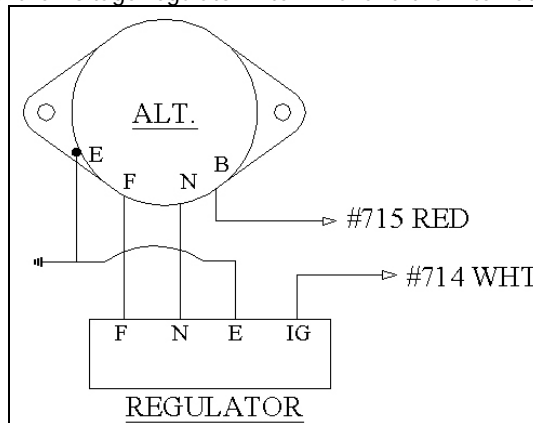

Figure 8-2 Toyota Alt. Diagram (1977-1979)
8.2 Toyota Alternator (1977-1979) See Figure 8-2
*Note: Your Alternator may not appear exactly as represented in **Figure 8-2**. The circuits are wired the same way, though.*